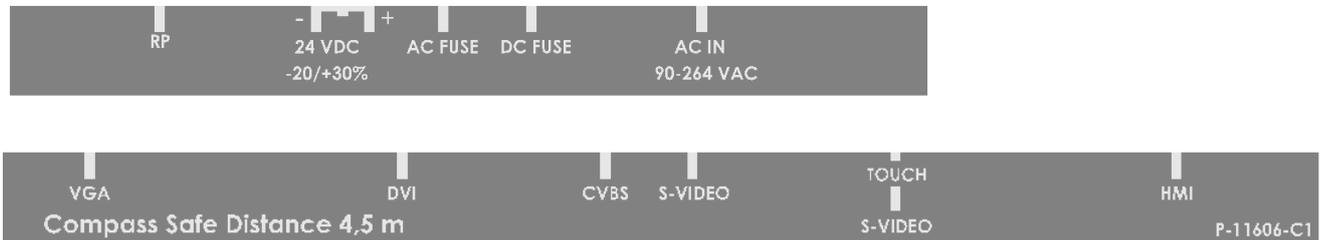

Figure 1. Left and right side of Terminal Label.
The compass safe distance indication is placed on the rear label (see figure 1.) and is valid for the Monitor only.
- The compass safe distance is also indicated on the terminal label of every Monitor as shown on Figure 1.